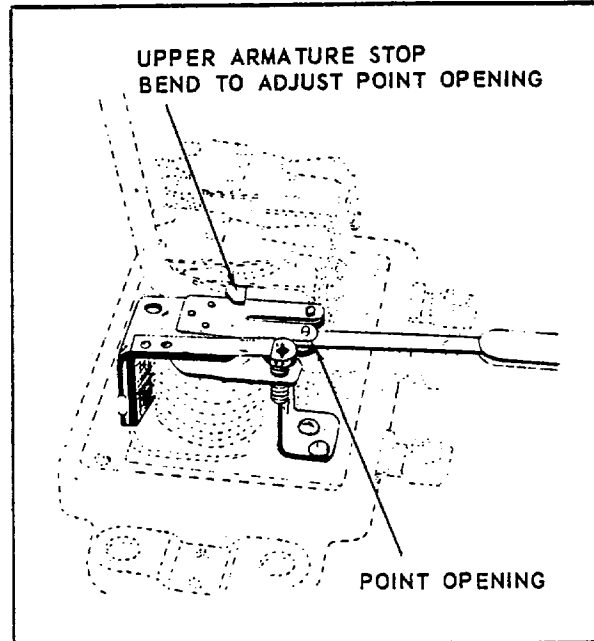

Figure 7-1C. Point Opening Adjustment
b. Check the relay point opening and adjust by bending the upper armature stop. (See figure 7-1C.) See Table V for proper point opening.